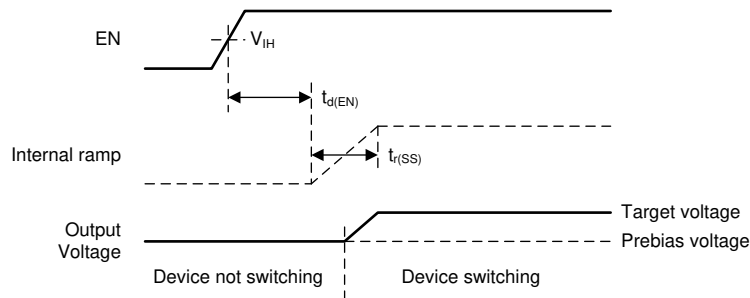

图 7-8. Start-Up Behavior into Prebiased (Low) Output
- If the prebias voltage is *lower* than the target voltage, the device does not start switching until the ramping output voltage is greater than the prebias voltage (see 图 7-8).